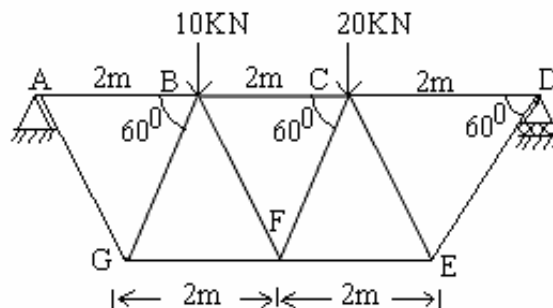

Fig.4
5. For the truss shown in Fig.4 determine by unit load method, vertical deflection at the joint B where 10 kN load is acting. Take cross-sectional area of all members as 2000 mm^2 and $E = 200 \text{ GPa}$. [16]